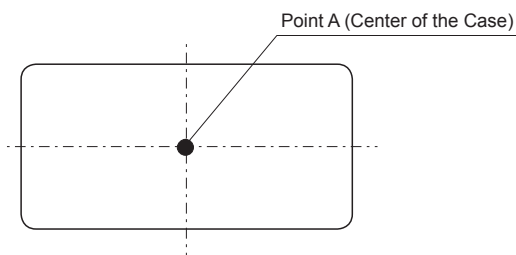

Fig.8.5 Temperature Measuring Point on the case (Top View)
■ In case of forced air cooling, please have sufficient ventilation to keep the temperature of point A in Fig.8.5 at 110°C or below. Please also make sure that the ambient temperature does not exceed 85°C.